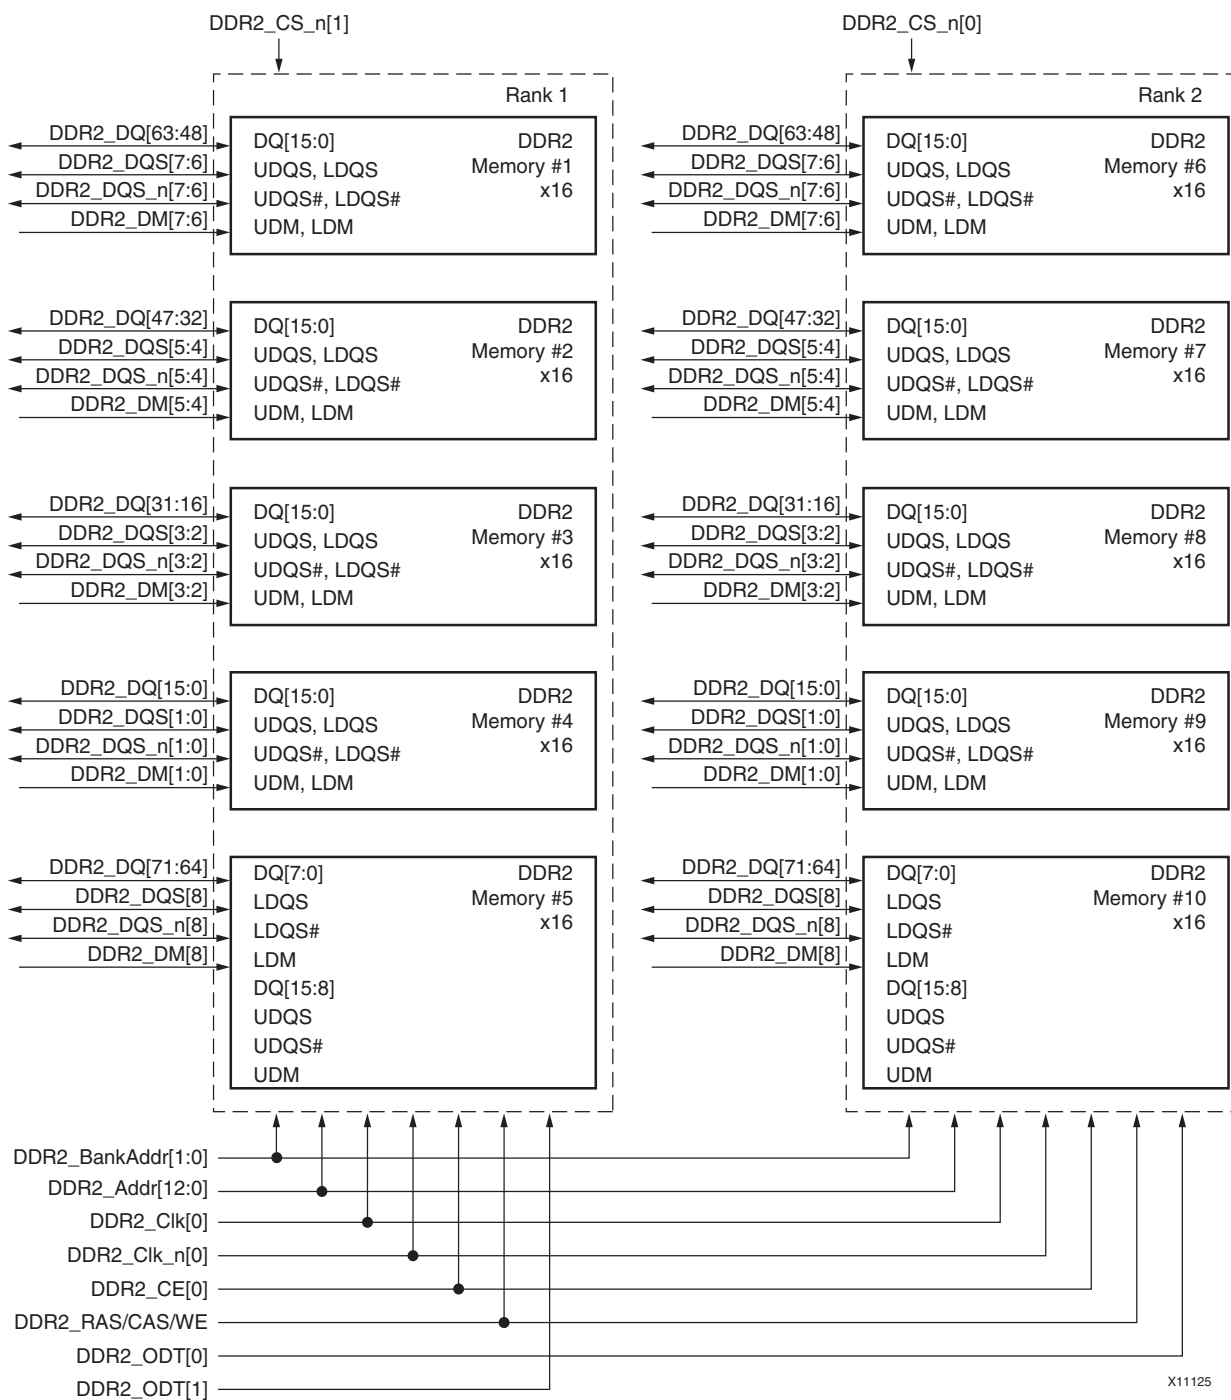

Figure 9: Example DDR2 Memory Connections
The example in Figure 9, page 100 has the following specified parameters:
- Within a particular rank, the signals DDR2_CS_n and DDR2_ODT are connected to each memory in the rank. Some memory manufactures have specific recommendations for how these signals should be connected. For example, when using a dual rank DIMM, the recommendation might be to assert DDR2_ODT on the same rank that DDR2_CS_n is asserted (as shown in Figure 9, page 100). Other recommendations might be to assert DDR2_ODT on to opposite rank that the DDR2_CS_n is asserted, which can be achieved by swapping DDR2_ODT[0] and DDR2_ODT[1].